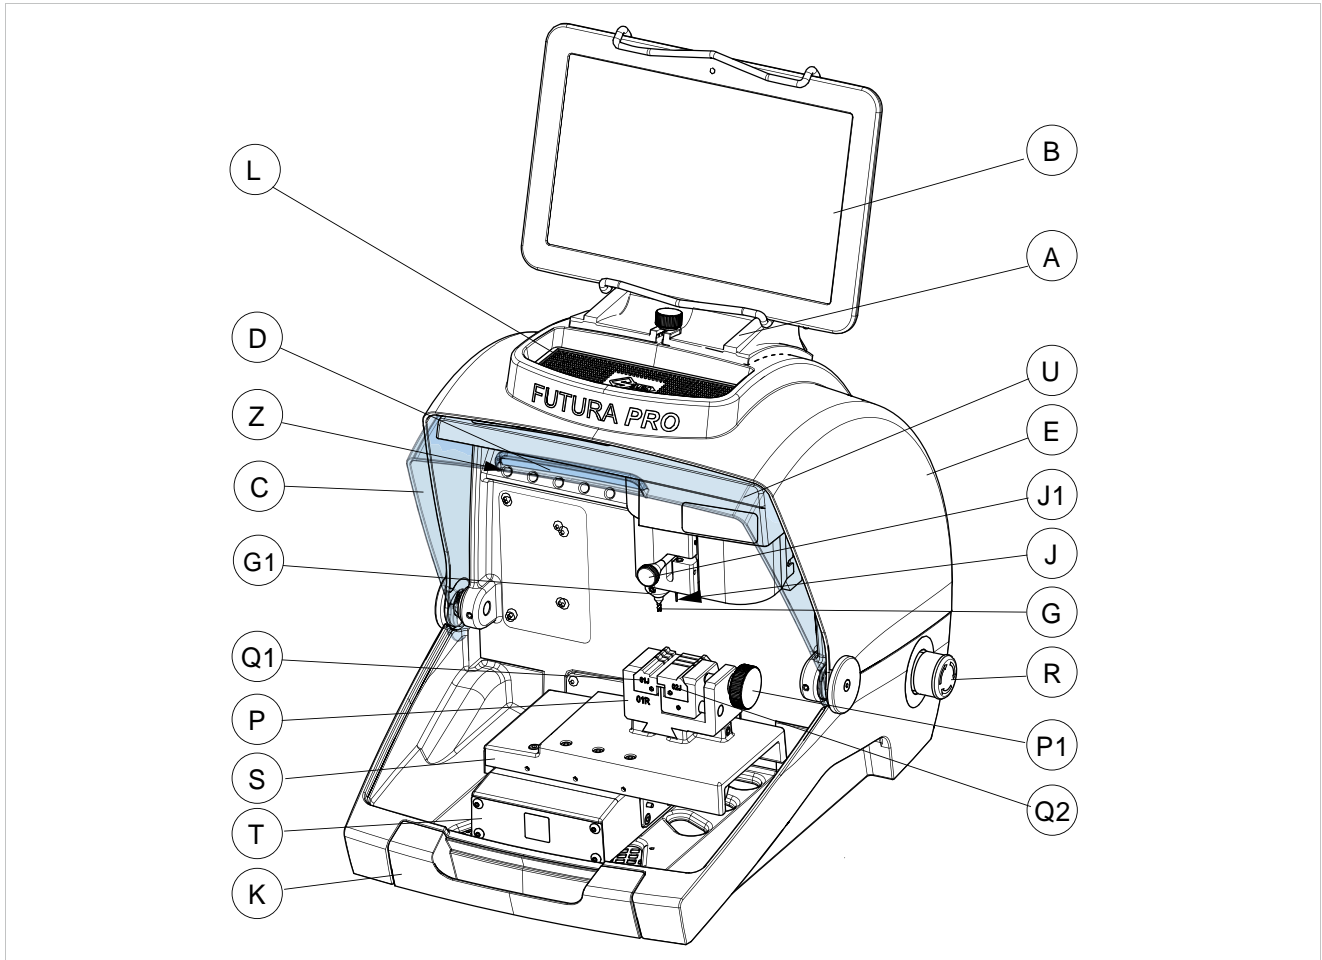

Fig. 5
Use the red emergency button (R) (Fig. 5), located on the right-hand side of the machine to stop the machine immediately in the event of serious malfunctioning or a hazard for the operator.